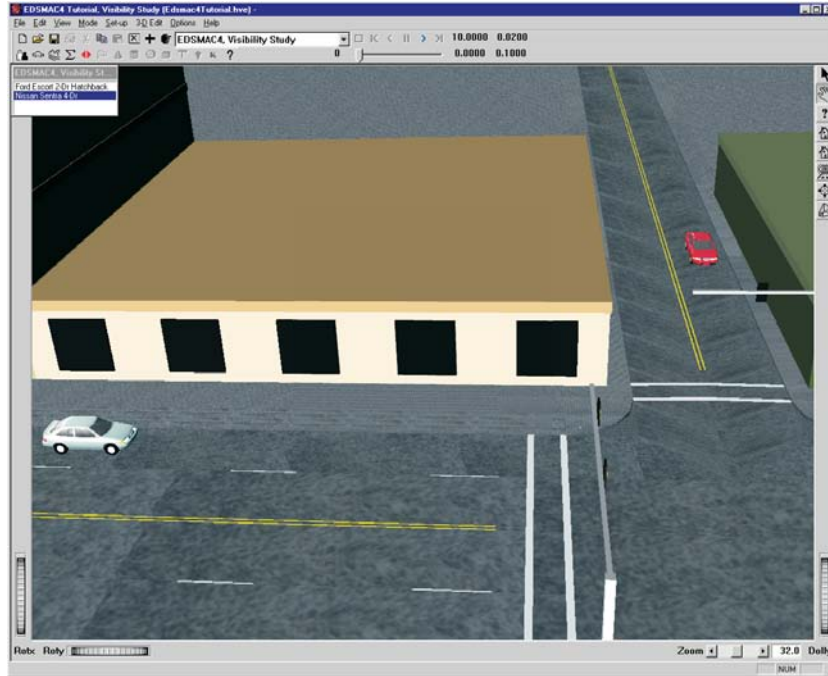

Figure 5-8 Overall view of the scene after event set-up is complete.
Let's first view the sequence from a good overall vantage point, such as is displayed in Figure 5-8:
- Use the viewer controls (thumb wheels, zoom slider and direct *hand-in-viewer* manipulator) to set the view similar to that shown in Figure 5-8.